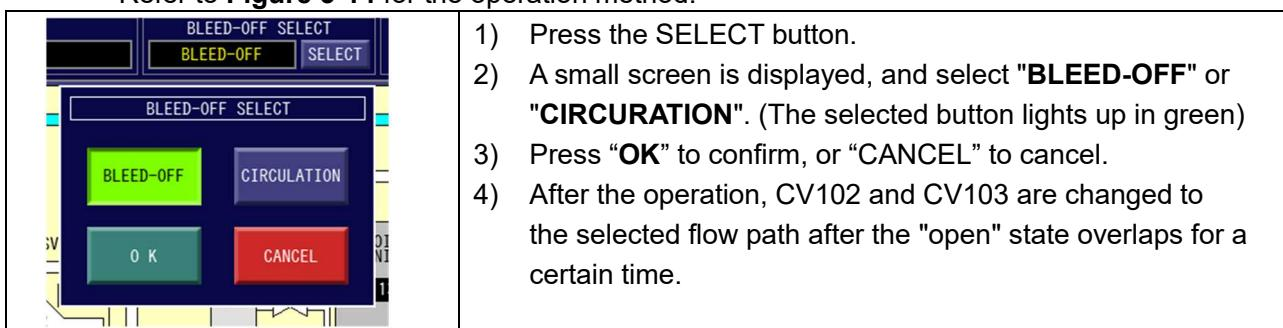

Figure 3-14 Method of BLEED-OFF SELECT
⑥ Bleed-off water drainage destination selection
- ◆ Refer to **Figure 3-14** for the operation method.